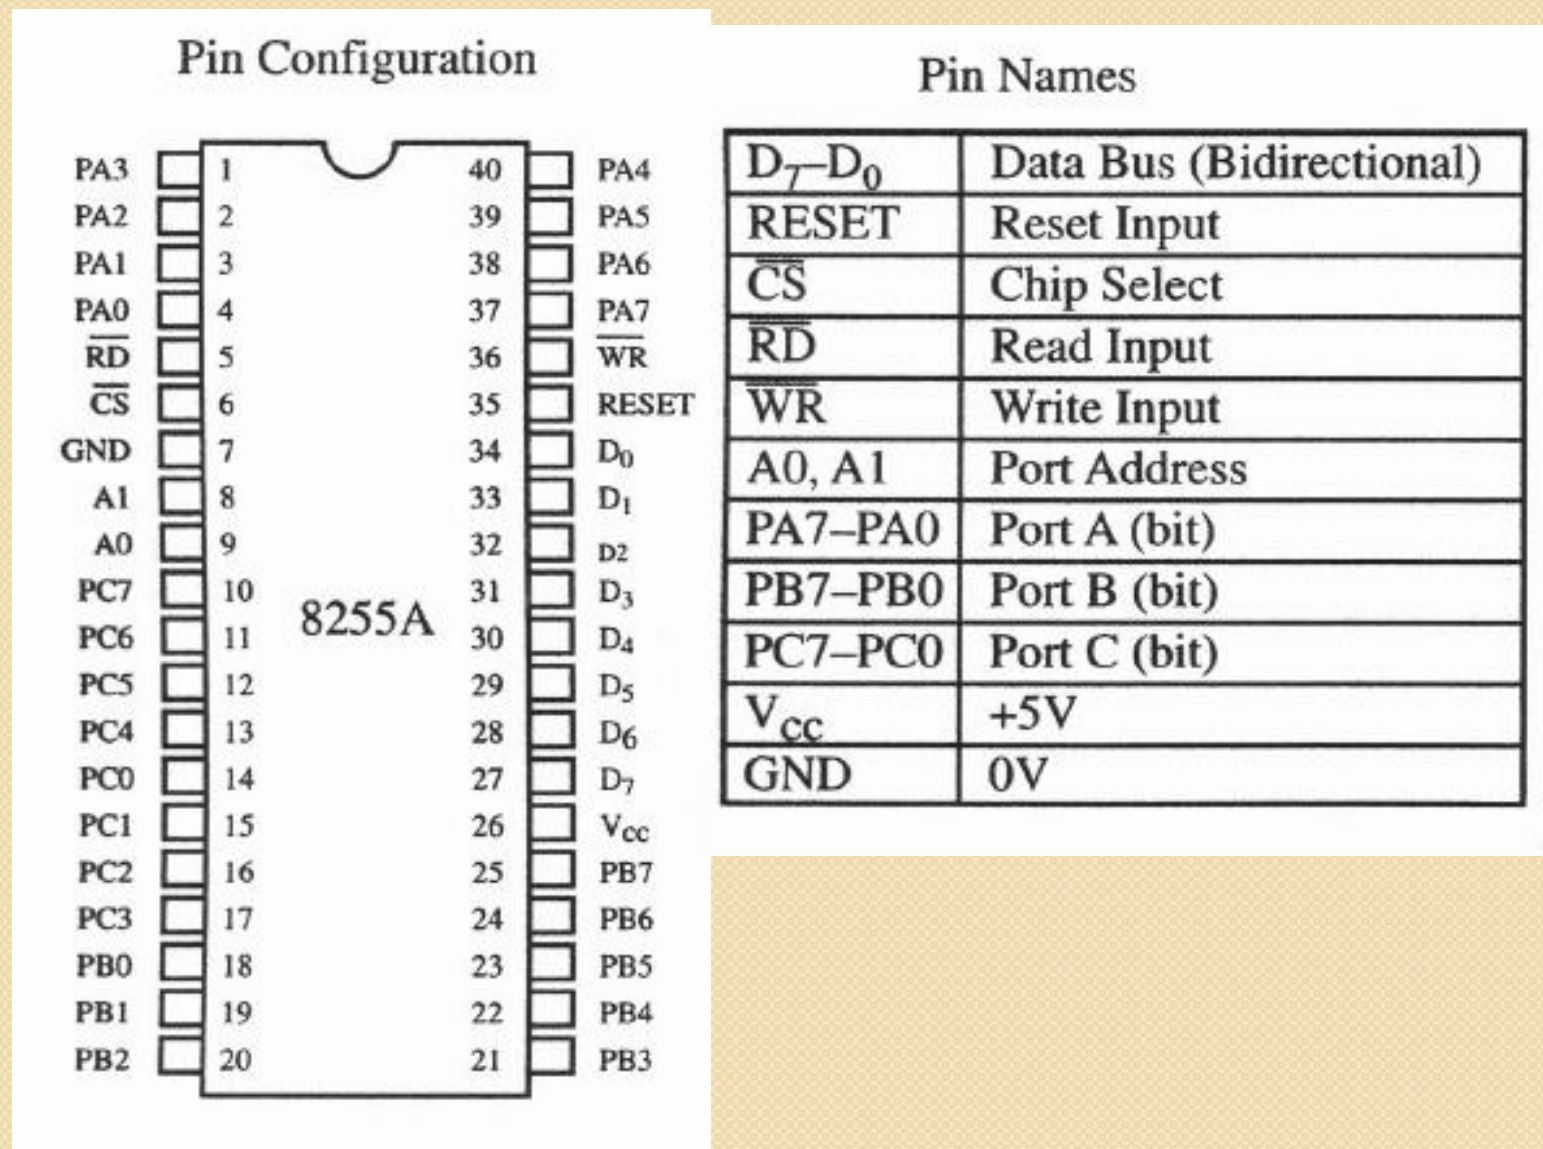

Figure 1: Pin configuration of the 8255
- The pin configuration of the 8255 is shown in Figure 1.